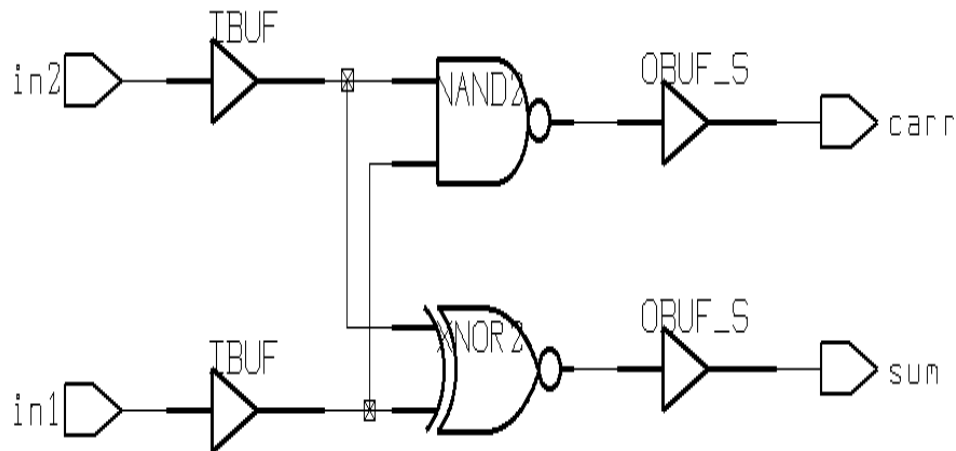

Figure 19: Post `replace_fpga` synthesis results for half_adder design.
(5) Use the Design Analyzer to read in the half_adder.db file from the Synthesized directory. Descend down the design hierarchy and view the schematic. What are the differences between the two synthesized designs? You can see the effect that the `replace_fpga` command had on the two results. The post `replace_fpga` design now consists of a gate level schematic diagram. The buffers labelled `IBUF` and `OBUF_S` are input/output buffers added by the synthesis tool. See Figure 19.